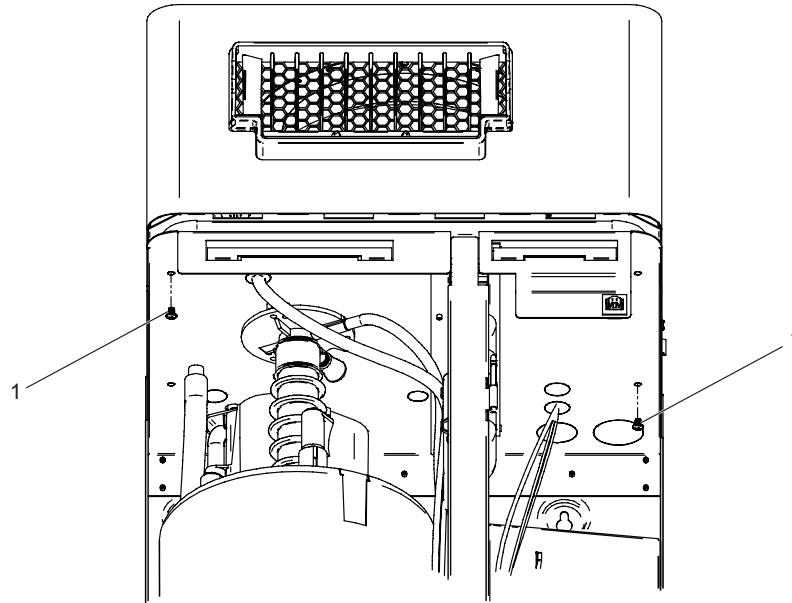

Figure 23: Blower Pack Fastened to Humidifier
- b. Fasten the blower pack to the humidifier from the bottom with two M4×6 mm screws (supplied). Refer to Figure 23 on page 39.